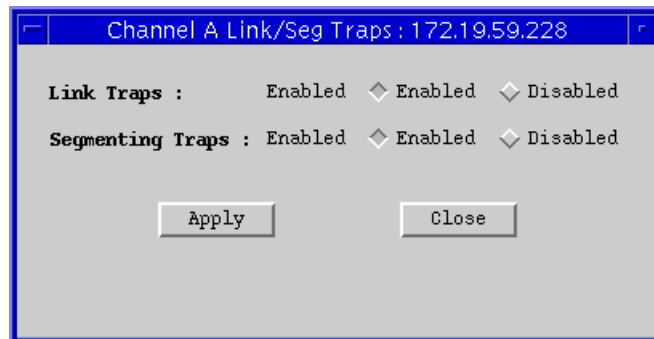

Figure 3-2. The Channel X Link/Seg Traps Window
2. Click mouse button 1 on ; the Channel X Link/Seg Traps window, Figure 3-2, will appear.